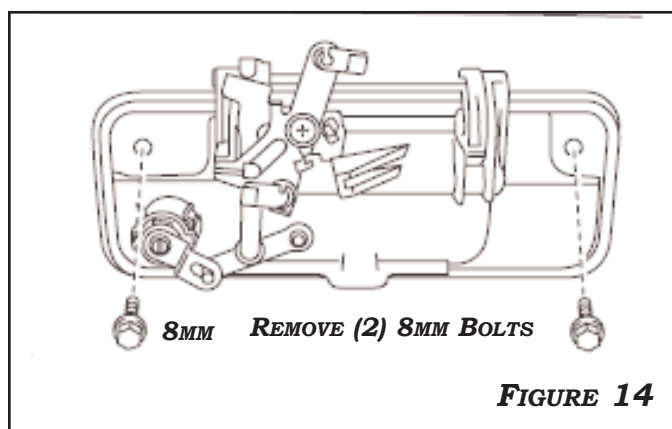

FIGURE 14
2. UNCLIP THE LATCH AND LOCK MECHANISM FROM THE LATCH ASSEMBLY BY TURNING THE PURPLE SNAPS. **FIGURE 14**